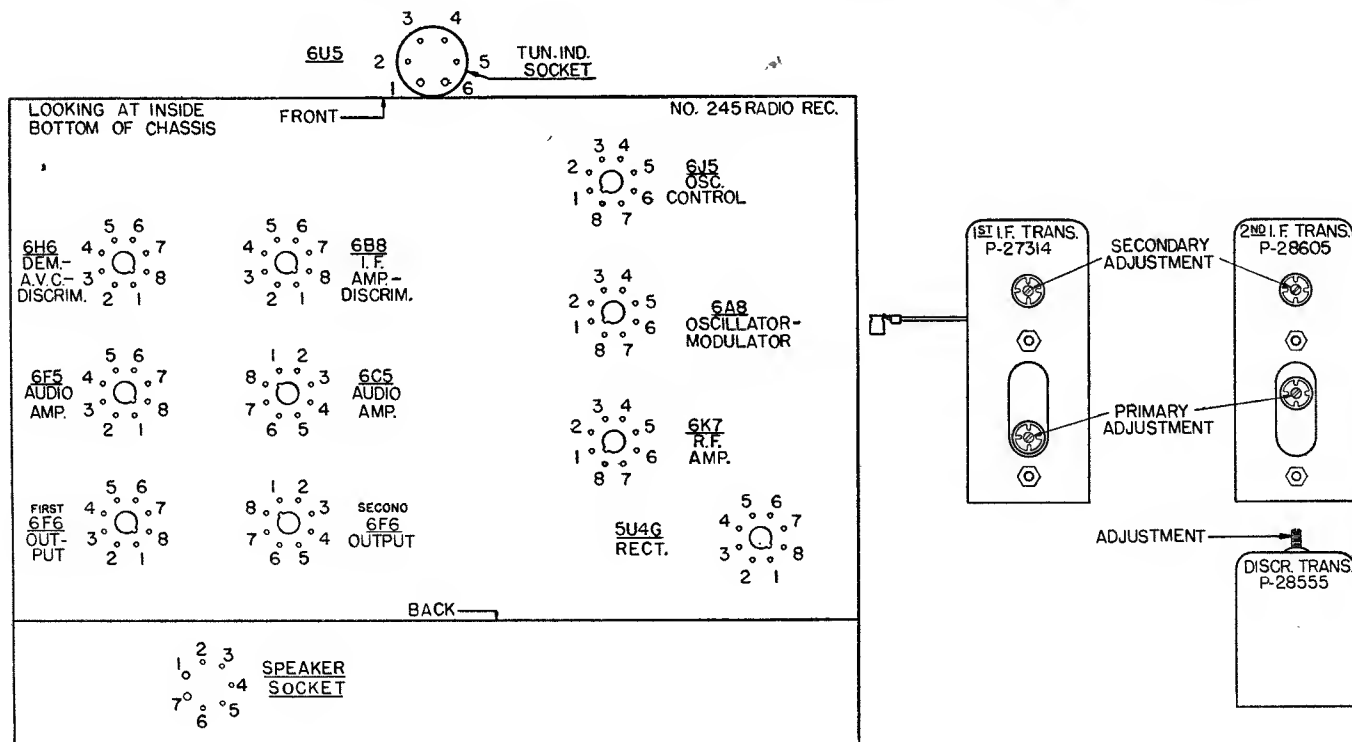

Fig. 1. Terminal Layout for Voltage Measurement Chart and Location of the Aligning Adjustments for the I. F. and Discriminator Circuits.
The various values of voltages listed in the following table are obtained by measuring between the various tube socket contacts and the chassis base, with the tubes in their respective sockets. The receiver is, therefore, in operation when the measurements are made. Figure 1, shows the terminal layout of the sockets with the proper terminal numbers.
3. Now, noting from Fig. 1, the alignment adjustments for the First and Second I. F. transformers, align the I. F. circuits in the following order: